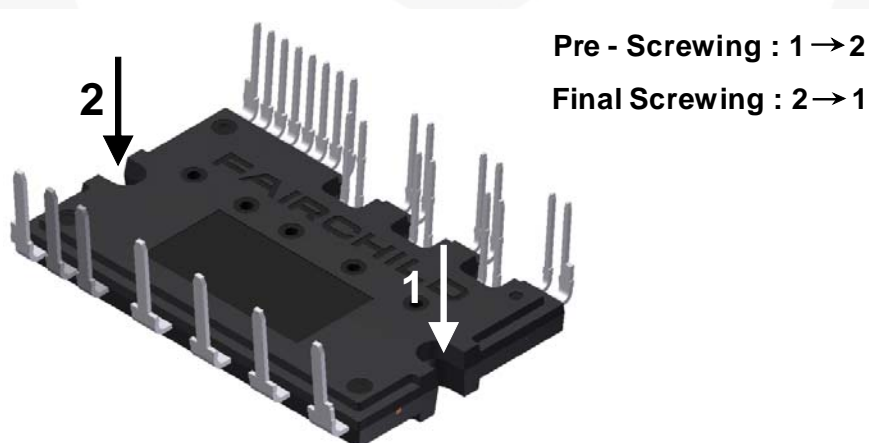

Figure 10. Mounting Screws Torque Order
12. Avoid one-sided tightening stress. Figure 10 shows the recommended torque order for mounting screws. Uneven mounting can cause the DBC substrate of package to be damaged. The pre-screwing torque is set to 20 ~ 30% of maximum torque rating.